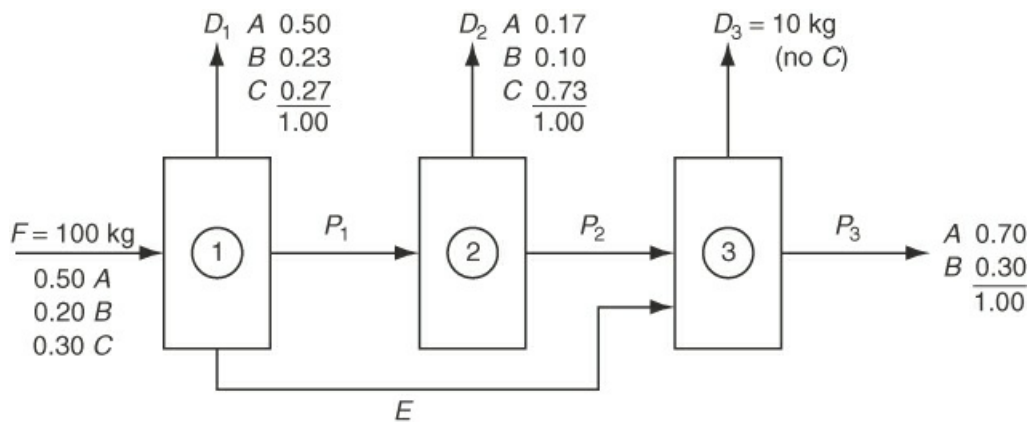

Figure P5.2.8
***5.2.8 Figure P5.2.8 shows a three-stage separation process. The ratio of P_3/D_3 is 3, the ratio of P_2/D_2 is 1, and the ratio of A to B in stream P_2 is 4 to 1. Calculate the composition and percent of each component in stream E. Hint: Although the problem comprises connected units, application of the standard strategy of problem solving will enable you to solve it without solving an excessive number of equations simultaneously.